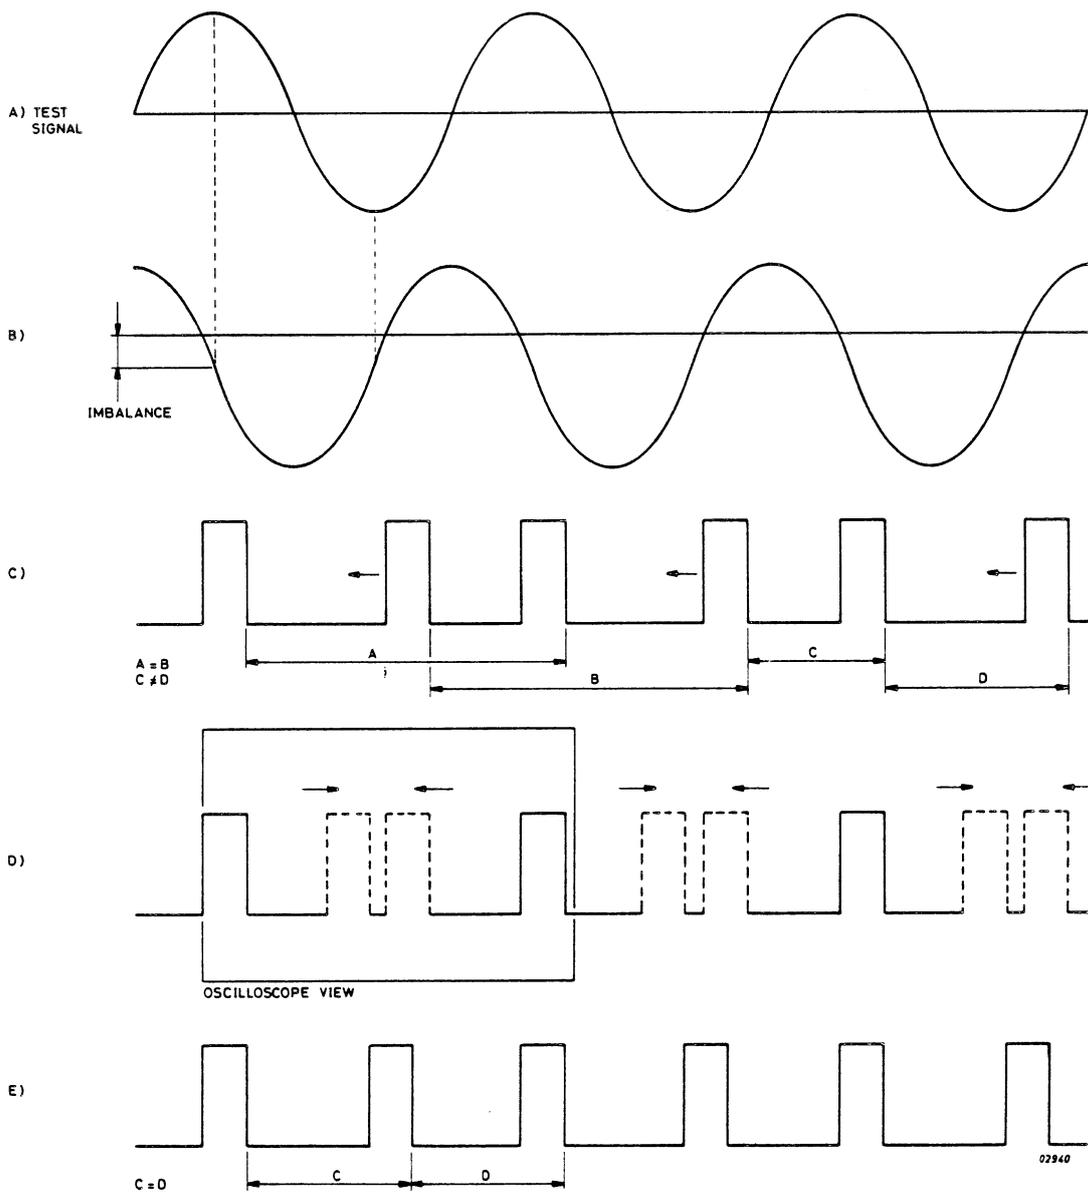

Figure 7.6 READ SYMMETRY ADJUSTMENT
#### 7.2.7 READ SYMMETRY ADJUSTMENT (FIGURE 7.6)
- c) Adjust oscilloscope so that at least part of the triggering pulse is useable and also the next two pulses, as in figure 7.6-d.
Note: This adjustment is to counteract the effect of imbalance in the diode and FET network which connects the heads to the read amplifier. The imbalance effectively creates DC bias which causes the zero crossing points, even for a perfect input signal, to be recognised unequally (figure 7.6-b and c).
Every second pulse jittering as figure 7.6-'d'.
Steady picture with unequal displacement as figure 7.6-'c'.